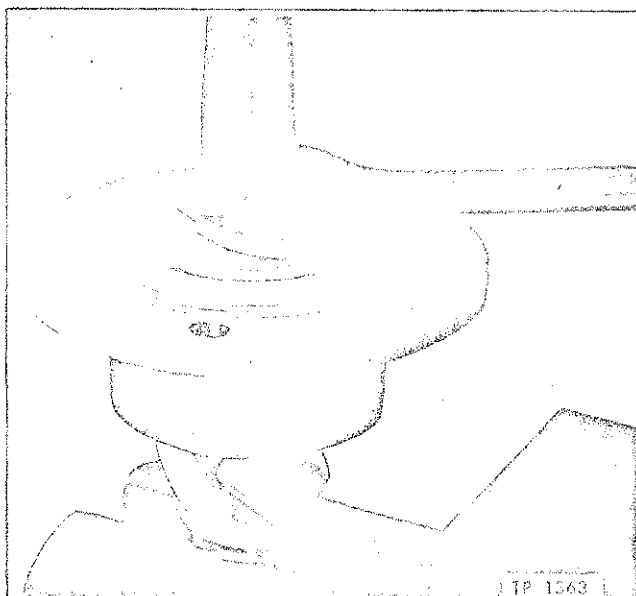

Figure 4—Drive Pinion Cage Disassembly
1. Mark pinion cage (45) and differential carrier (30) in a suitable manner with hammer and chisel so parts may be reassembled in same relative position.
2. Remove nuts (34) and lock washers (33) from studs (35). Install and tighten puller screws alternately until pinion cage (45), bearing and drive pinion assembly are free in carrier (30); then remove cage (45) assembly from carrier (30). Remove and tie shim (32) pack together to retain original shim pack to be installed at reassembly.
3. Remove bolt (53) and retainer (52) which secure inner bearing (51) on drive pinion (49); then remove inner bearing (51) and bearing spacer (50) from drive pinion (49).
4. Clamp flange (38) in a vise. Remove cotter pin and nut (39) from drive pinion (49). Remove flange (38), cover (41) and oil seal (41) assembly, and gasket (54) from cage.
5. Pry nut lock (36) lip away from lock nut (37); then remove lock nut (37), (fig. 4) nut lock (36), adjusting nut (42) and thrust washer (48), from drive pinion (49).
6. Position drive pinion and cage assembly in an arbor press and press drive pinion (49) out of pinion cage (45) and outer bearing (46). Remove outer bearing (46) from pinion cage (45). Use special bearing puller CS-1047, to remove inner bearing (31) from drive pinion (49).
7. Bearing cups (47 and 48) may be removed (if necessary) from pinion cage (46) with a brass drift and hammer.